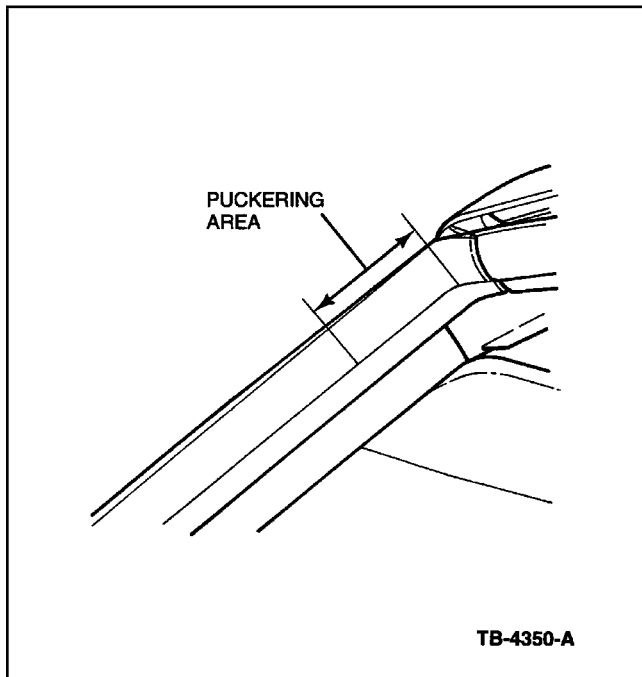

Figure 4 - Article 96-10-2
3. Install weatherstrip carefully along A-pillar to prevent puckering. This is best achieved by working the weatherstrip carrier slowly down from the tops of the A-pillars. Refer to Figure 4.